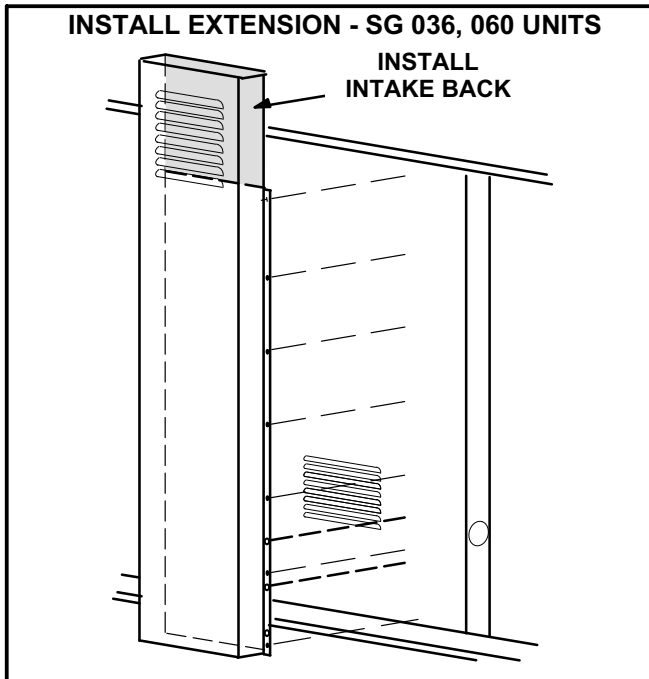

FIGURE 7
- 1- Install the intake back on the extension using #8 screws provided. See figure 7.